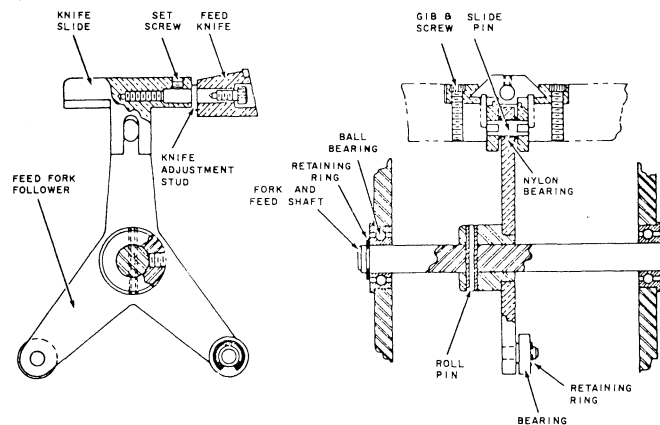

Figure 4-23. Card Actuator Assembly and Bearings
7. CARD ACTUATOR ASSEMBLY AND BEARINGS (figure 4-23)